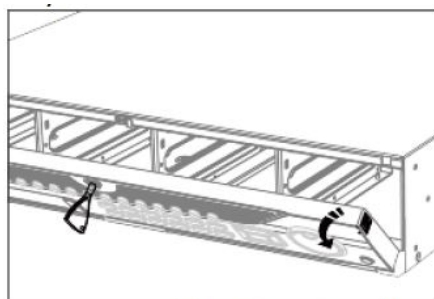

Figure 2-8 Open Front Panel
STEP 2 Use the attached key to unlock the front panel, and press buttons on both sides to open the front panel. Refer to Figure 2-8.